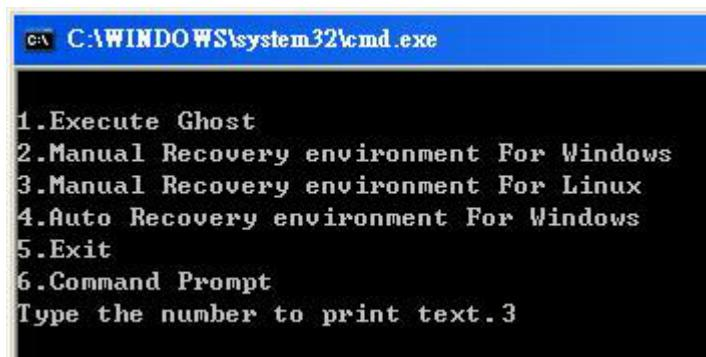

Figure B-32: System Configuration for Linux
Step 4: Build-up recovery partition. Press any key to boot from the recovery CD. It will take a while to launch the recovery tool. Please be patient. When the recovery tool setup menu appears, type <3> and press <Enter> (**Figure B-32**). The Symantec Ghost window appears and starts configuring the system to build-up a